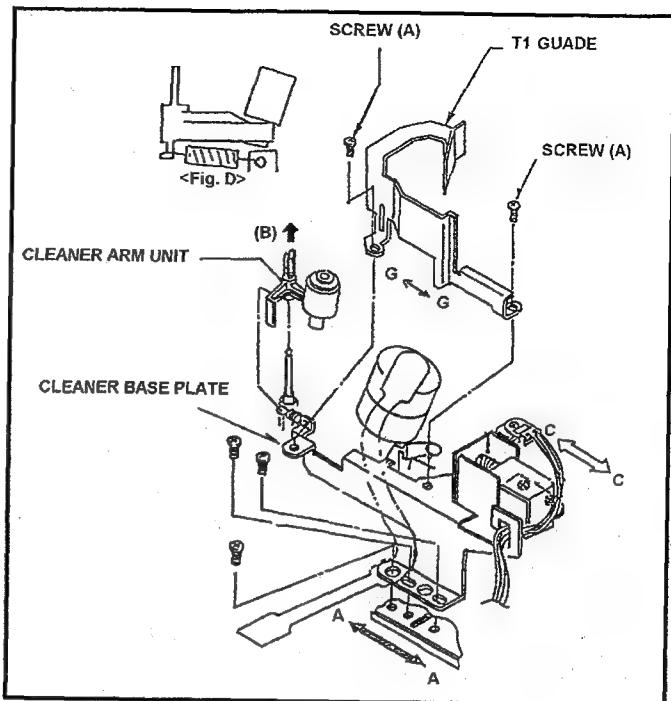
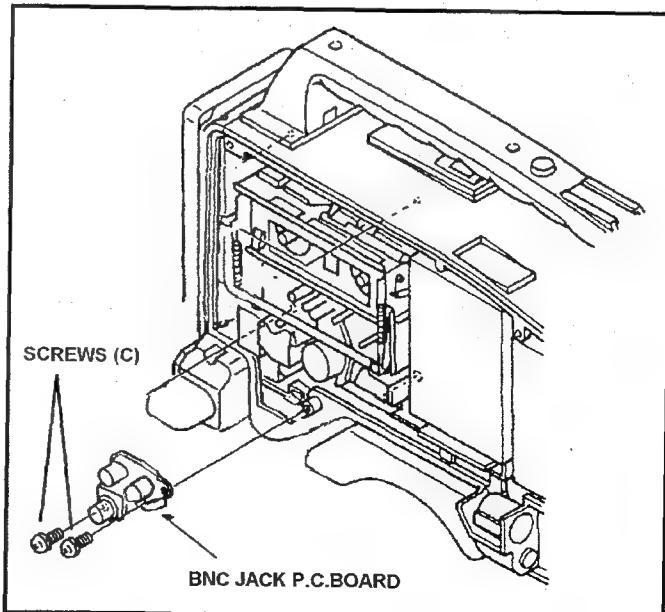

Fig. 10-8-1 Removal of Cleaner Roller Unit
Fig. 10-8-3 Removal of BNC JACK P.C. Board
2. Unscrew the **2 screws (C)** to remove the BNC JACK P.C. Board as shown in Figure 10-8-3.
3. Unscrew the **2 screws (A)** to remove the T1 Guide.
4. Pick up the **tip portion (B)** of Cleaning Arm Unit and remove the spring from Cleaner Arm Unit. Then remove the Cleaning Arm Unit as shown in Figure 10-8-1.